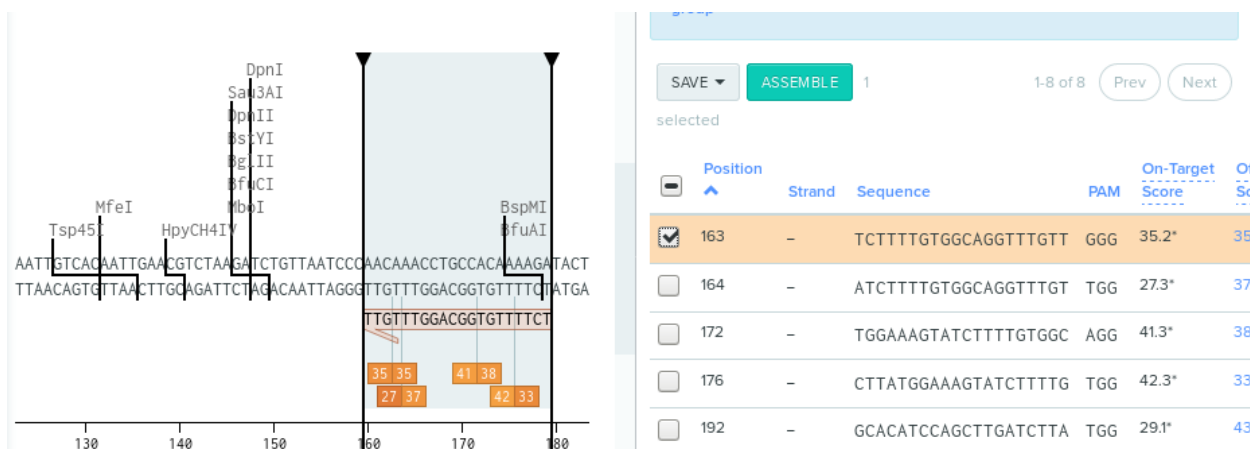

Figure 6: Selection of gRNAs on Benchling website using off target score.
- Select gRNAs that have the highest off target score since they have the lowest chance to cause the off target editing (see **Figure 6**).